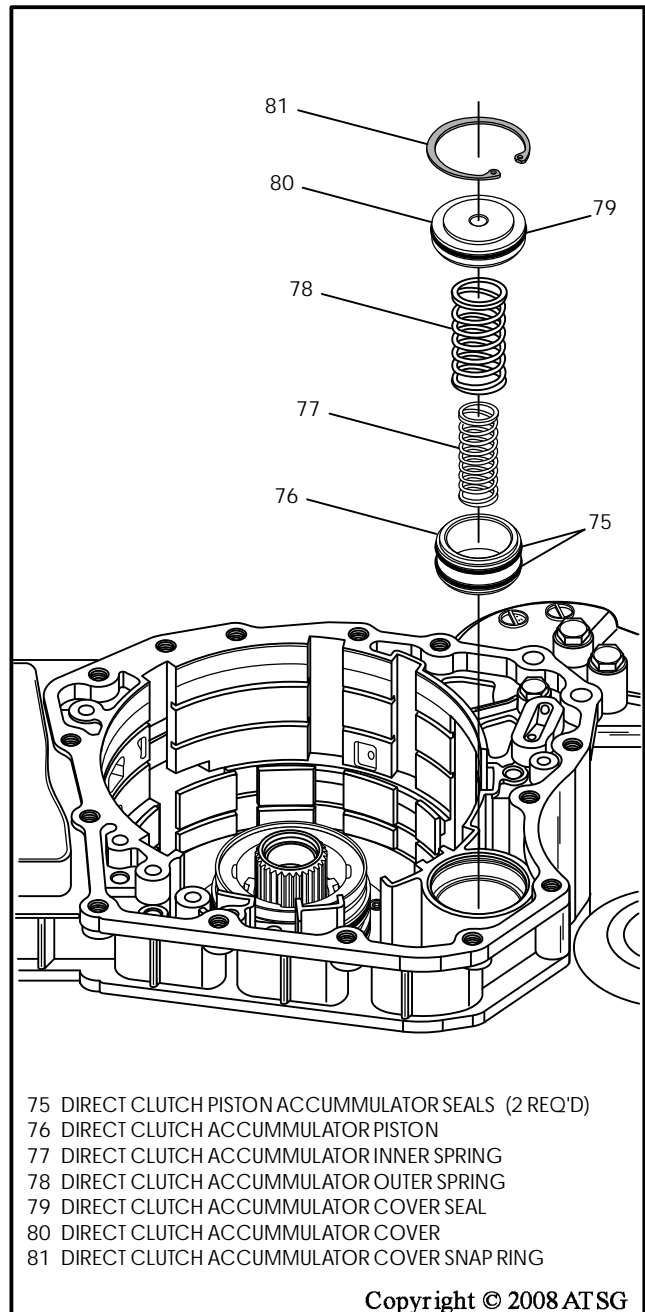

Figure 79
28. Install new seals on direct clutch accumulator piston, as shown in Figure 79, and lube with a small amount of Trans-Jel®.
29. Install direct clutch accumulator piston into case, as shown in Figure 79.
30. Install inner and outer accumulator springs into case bore, as shown in Figure 79.
31. Install new seal on direct clutch accumulator cover, as shown in Figure 79, and lube with a small amount of Trans-Jel®.
32. Install direct clutch accumulator cover into case bore, as shown in Figure 79.
33. Compress direct clutch accumulator cover and install snap ring (See Figure 79).